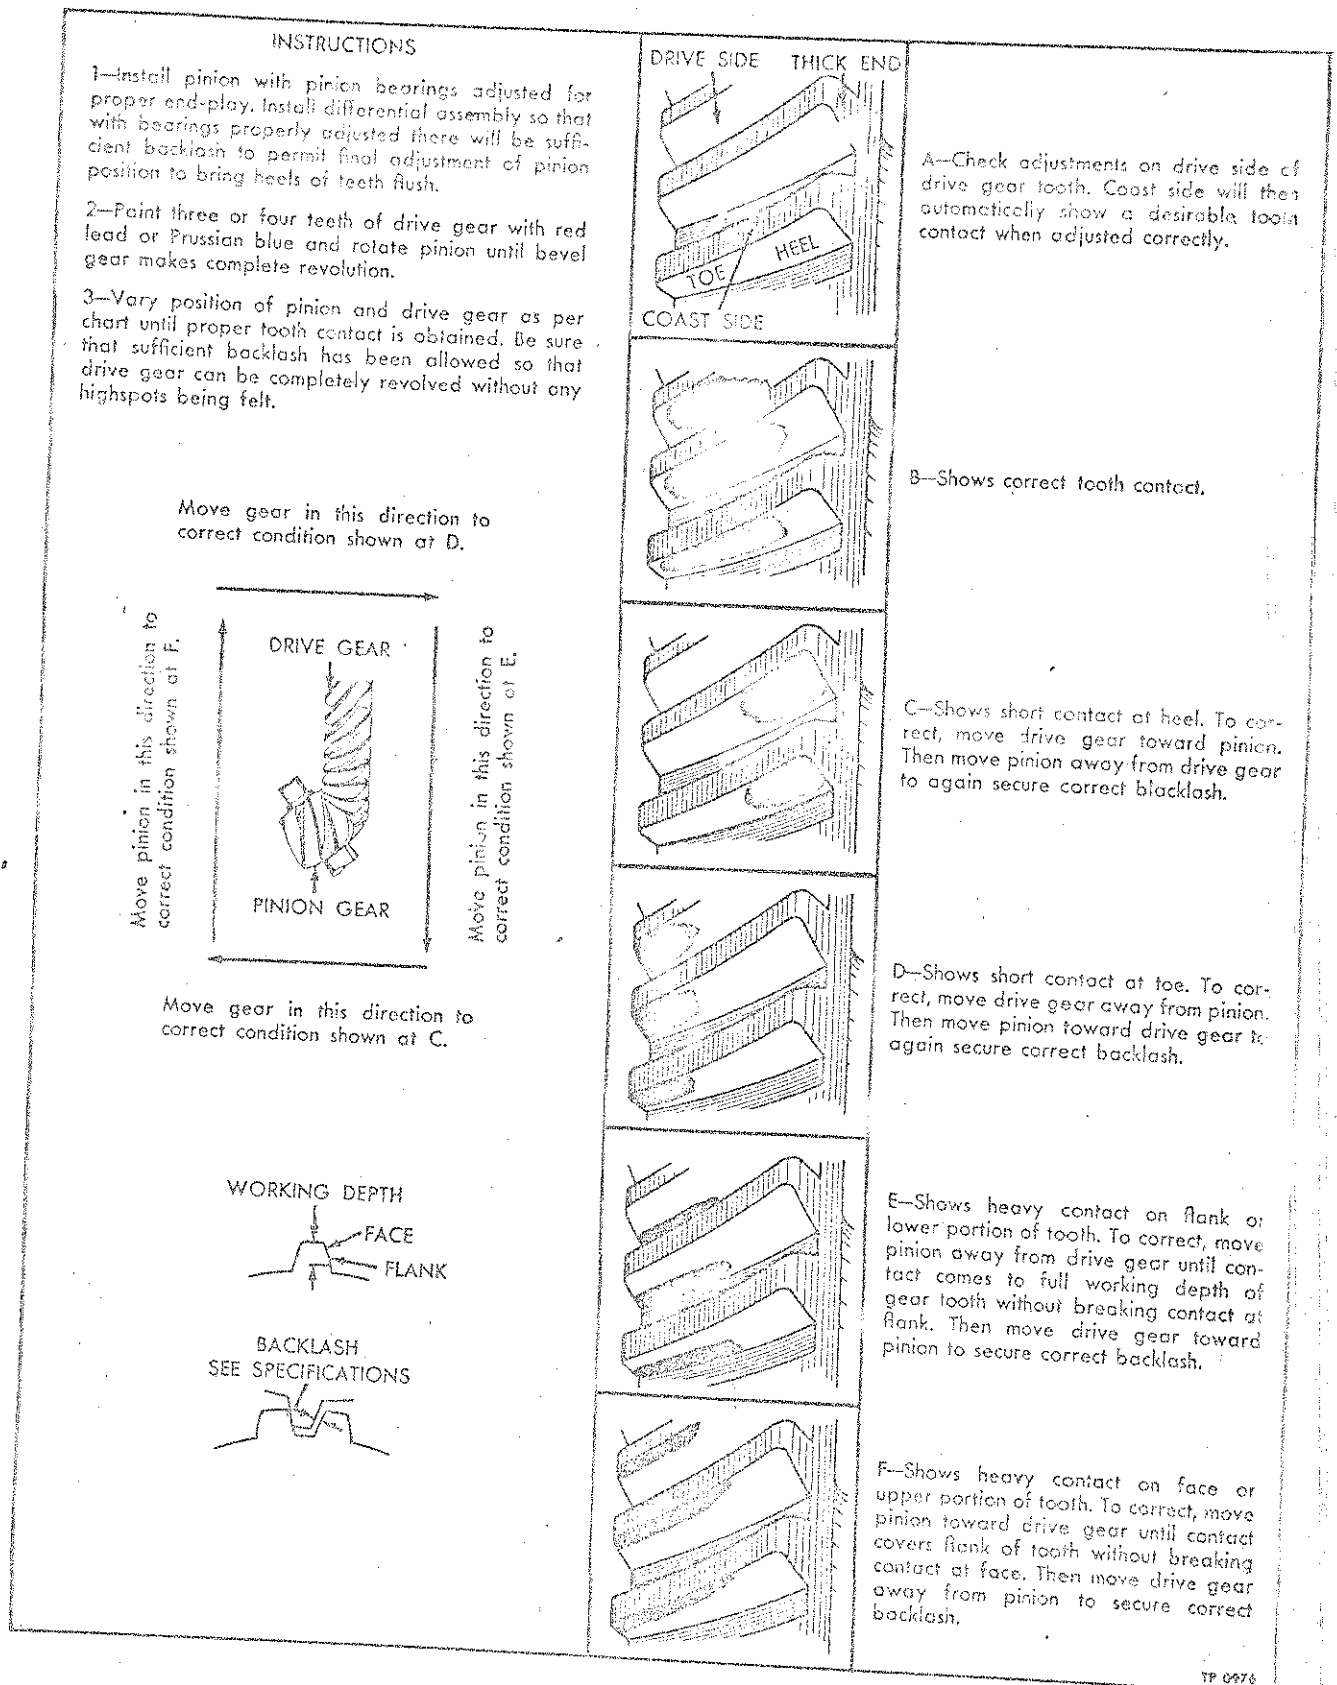

Figure 7—Gear Tooth Contact Chart
1. Install bearing cups (4) over differential bearings (3), make certain that dowel pins are tight in bearing caps (5). Position differential case in carrier and install bearing caps (5). Turn nuts (14) on bearing cap studs (6) up tight and then back off sufficiently to allow adjusting rings (2) to turn.
2. Screw adjusting rings (2) into place in carrier (30) and tighten rings to seat bearings. Then back rings (2) off until differential turns freely but with no perceptible end play.
3. Adjust relative position of pinion gear (49) and bevel drive gear (10) so back ends of gear teeth are flush and back lash is within limits given in "Specifications" at end of this section. Position of bevel drive gear is adjusted by turning adjusting rings (2) in carrier (30) to relocate bearings (3). Left-hand adjusting ring must be tightened same amount as right-hand ring is loosened, or vice versa, to maintain correct adjustment of side bearings. Pinion gear is moved in or out by removing or adding shims (32) between carrier (30) and pinion cage (45). Refer to "Specifications" at end of this section for thickness of shims available. When cage (45) is finally assembled be sure oil holes are in line.
4. Paint bevel drive gear (10) teeth with a mixture of red lead and light oil. Turn bevel drive gear one complete revolution in direction of driving rotation. Examine tooth contact impressions and refer to "Gear Tooth Contact Chart," figure 7. Chart explains in detail method to follow to obtain correct tooth contact.
5. After completing adjustment of tooth contact and backlash, tighten side bearing cap stud nuts (16) fully and install adjusting ring locks (19) and bolts (18).